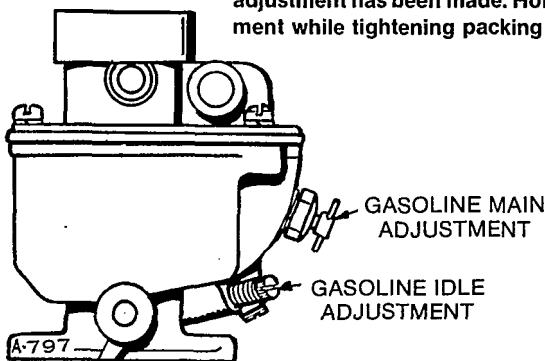

FIGURE 1. GASOLINE IDLE ADJUSTMENT
The carburetor has an idle jet and a main jet. The adjustable, idle jet affects engine operation at no-load speed. The main jet adjustment affects operation under load or high speed. Under normal circumstances, factory carburetor adjustments should not be disturbed. If the idle adjustment has been disturbed, turn the main adjustment needle clockwise until it gently seats, then turn it counterclockwise off its seat 1 to 1-1/2 turns to permit starting the engine (Figure 1), then readjust as follows:
3. Turn the idle needle out (counterclockwise) until engine begins to slow down or run unevenly. Remember this position; see Figure 1.
If engine runs unevenly at half or full load due to faulty carburetion, the main adjusting needle needs readjustment (Figure 1).